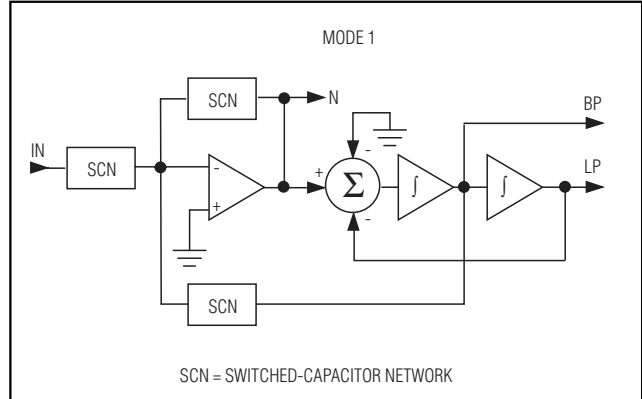

Figure 7. Filter Mode 1: Second-Order Bandpass, Lowpass, and Notch
Figures 7 through 11 show symbolic representations of the MAX260 filter modes. Only one second-order section is shown in each case. The A and B sections of one MAX260/MAX261/MAX262 can be programmed for
**MODE 1** (Figure 7) is useful when implementing allpole lowpass and bandpass filters such as Butterworth, Chebyshev, Basset, etc. It can also be used for notch filters, but only second-order notches because the relative pole and zero locations are fixed. Higher order notch filters require more latitude in  $f_0$  and  $1N$ , which is why they are more easily implemented with mode 3A.
Mode 1, along with mode 4, supports the highest clock frequencies (see Table 1) because the input summing amplifier is outside the filter's resonant loop (Figure 7). The gain of the lowpass and notch outputs is 1, while the bandpass gain at the center frequency is  $Q$ . For bandpass gains other than  $Q$ , the filter input or output can be scaled by a resistive divider or op amp.